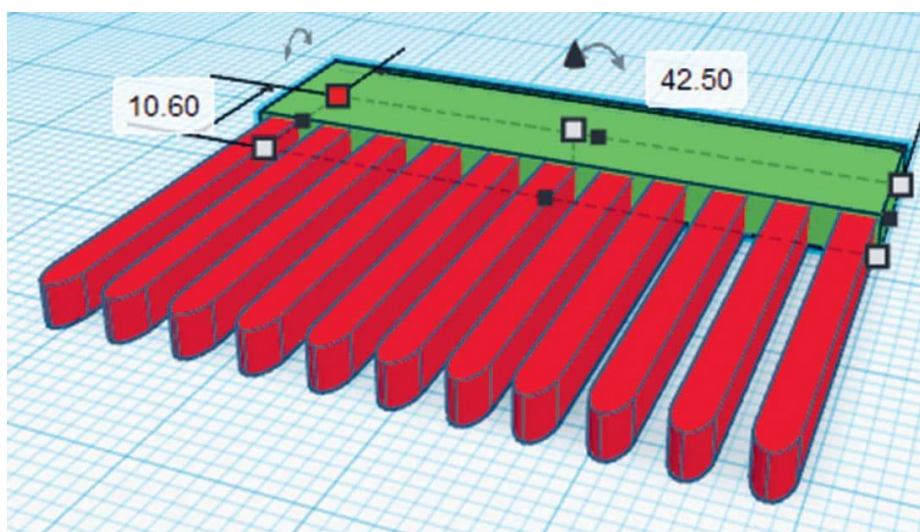

FIG. 2: The stretched box for the comb head should be at least 2.5 mm thick and as long as needed to hold all the teeth.
2. Make about 8 to 12 copies of the tooth and space them about 1.5 mm apart. Join the teeth at one end using the comb head. Create the head using a stretched box, which should be at least 2.5 mm thick and as long as needed to hold all the teeth (fig. 2).